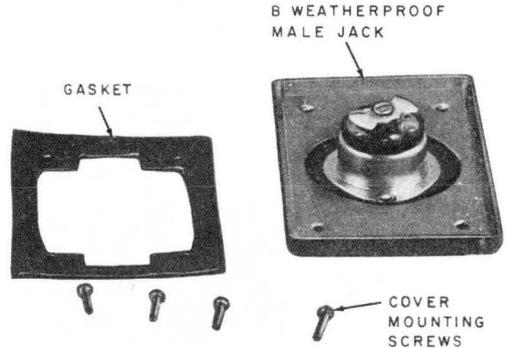

Fig. 6—B Weatherproof Male Jack
2.06 The B weatherproof male jack (Fig. 6, 7, 8, and 9) mounts in the B outlet box on the recreational vehicle and receives the female plug of the B weatherproof cord to provide telephone
- One B weatherproof male jack mounted on the recreational vehicle (Fig. 6)